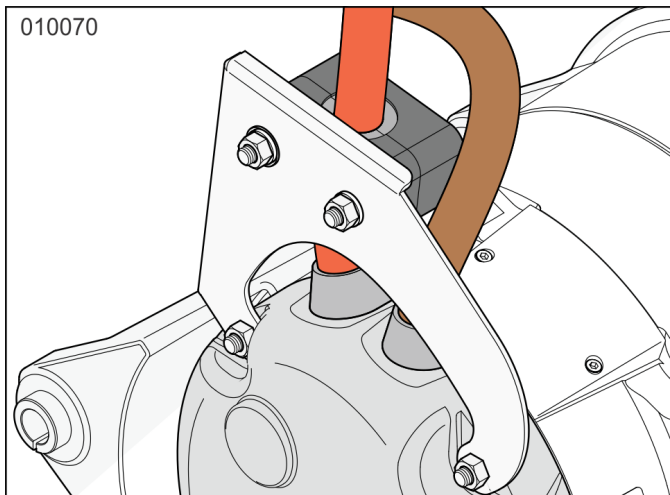

Figure 8
- 12) Install the protective cover of the upper alternator. Verify that the rubber grommets for the cables are in place. Install the positive cable support in reverse of original position and secure the cable clamp to the support. Secure the protective cover (Figure 8).